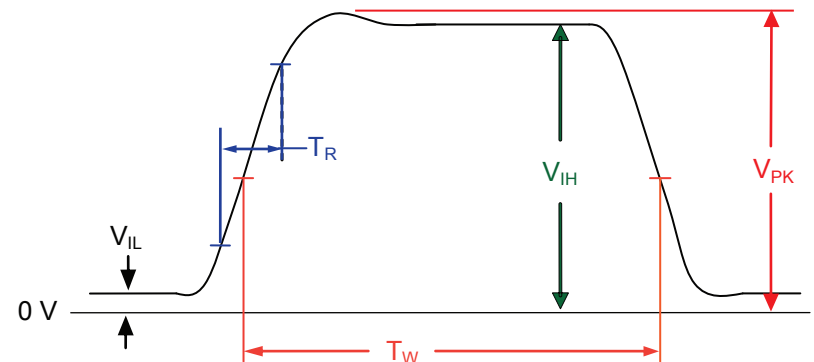

Figure 24 Required Characteristics of Flashlamp and Q-Switch Trigger Input Signals
- Figure 24 shows the required characteristics of the flashlamp trigger signal.